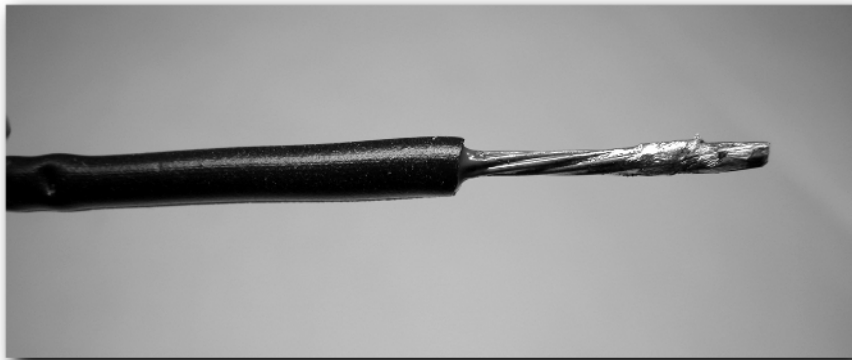

FIGURE 7-9: A pre-tinned wire.
7. Pre-tin wires by applying solder to them and then letting them cool, as shown in Figure 7-9. When it's time to attach the wire to the component, the pre-tinned wire will make it easier.